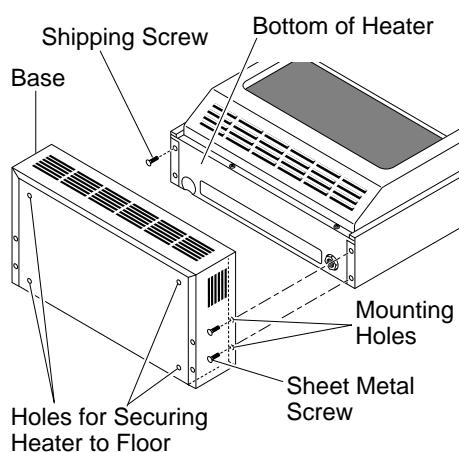

Figure 16 - Attaching Heater to Hearth Base
3. Line up mounting holes on top of hearth base with holes in bottom of heater (see Figure 16).
4. Using a Phillips screwdriver, secure hearth base to heater with four sheet metal screws (see Figure 16).
1. Position hearth base in desired location. Mark holes for drilling (See Figure 16). Remove hearth base.